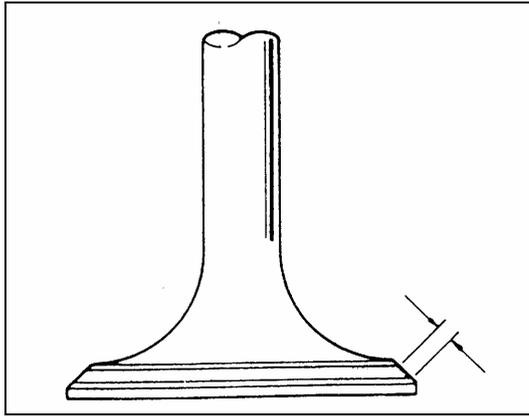

Fig. 4-165
5) The width of seal adhesive tape, see fig.4-165.